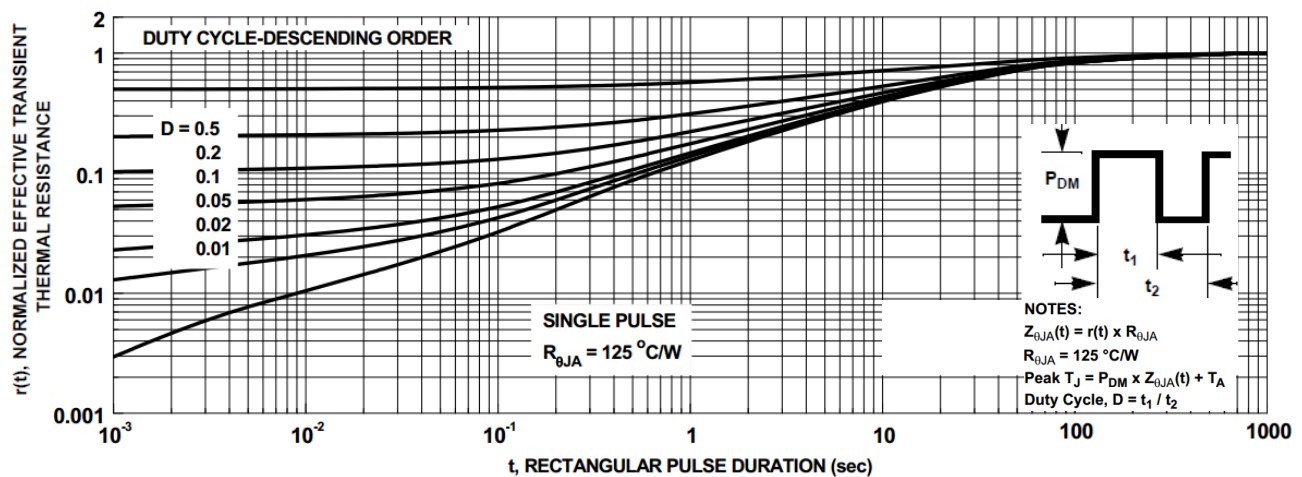

Figure 10. Junction-to-Ambient Transient Thermal Response Curve
The steady-state thermal resistance values are not enough to find a peak junction temperature in terms of pulse driven applications. Figure 10 provides the normalized effective transient thermal resistance, $r(t)$, as a function of the rectangular pulse duration at a given duty cycle. As the duty cycle and the pulse duration increase, the transient thermal impedance gets close to 1. This means the transient thermal resistance approaches steady-state resistance. It calculate the transient thermal impedance, $Z_{\Theta JA}(t)$, which is used to estimate the junction temperature, T_J , resulting from a transient power dissipation by using Equations (6) and (7):
For example, when FDMS86101A is conducting during 1 ms out of the 2 ms period which is the 0.5 duty cycle, the $r(t)$ from Figure 10 is 0.5. The junction-to-ambient thermal resistance, $R_{\theta JA}$ on the minimum pad of 2 oz copper is 125°C/W from Table 6. Then the $Z_{\theta JA}(t)$ of FDMS86101A mounted on the minimum pad of 2 oz copper is 62.5°C/W by using Equation (6).